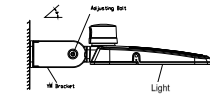

Figure 20
Step 3: Connect the fixture to the bracket and tighten the screws; connect the wires properly and put them into junction box. (Figure 20)
Notice: Adjustable angle is 0-90° (Figure 20)